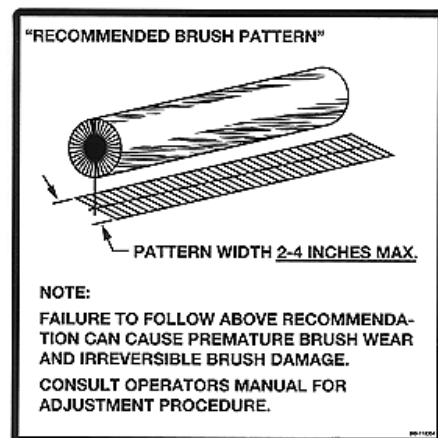

Figure 8
4. Confirm adjustment by running the broom for about 30 seconds in the down position while stationary. Stop the broom and move the unit away. The 'cleaned' area (contact patch) should be 2-4" wide from front to rear for the entire length of the broom (Figure 8).